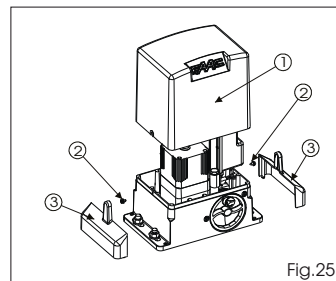
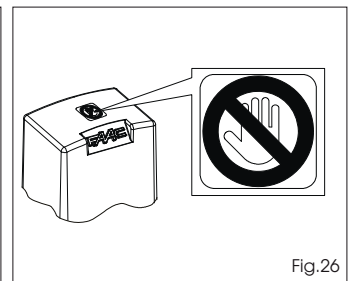

Fig. 25
Fig. 26
After installing the operator, carefully check operating efficiency of all accessories and safety devices connected to it. Return the board support to its original position. Fit the cover (Fig. 25 ref. 1), tighten the two side screws provided (Fig. 25 ref 2) and snap-fit the side panels (Fig. 25 ref.3). Apply the danger sticker on the top of the cover (Fig. 26). Hand the "User's Guide" to the Customer and explain correct operation and use of the gearmotor, indicating the potentially dangerous areas of the automated system.